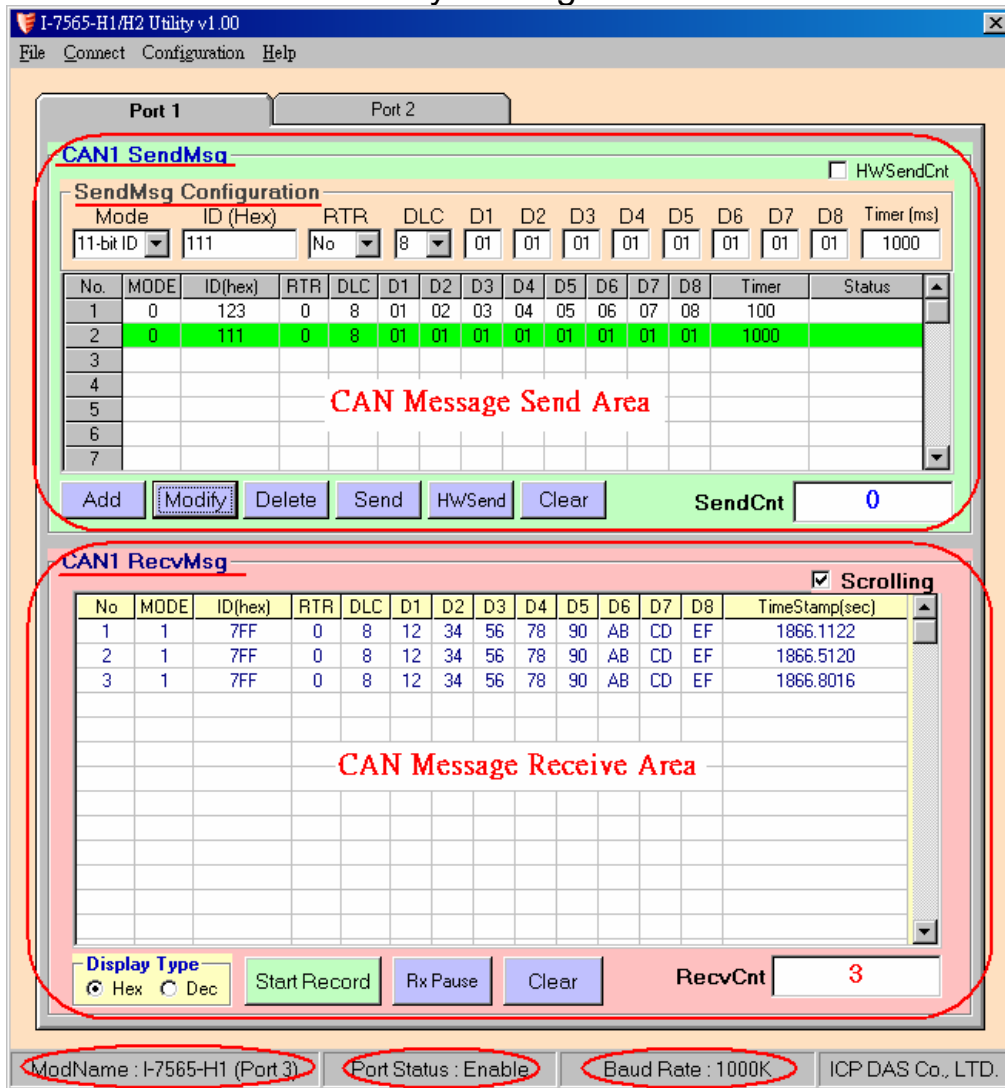

Figure 3-3: Communication Screen of I-7565-H1/H2 Utility
Step4: After the connection to I-7565-H1 is successful, the communication screen will show and the connection parameters are listed in status bar of I-7565-H1/H2 Utility like Figure 3-3.